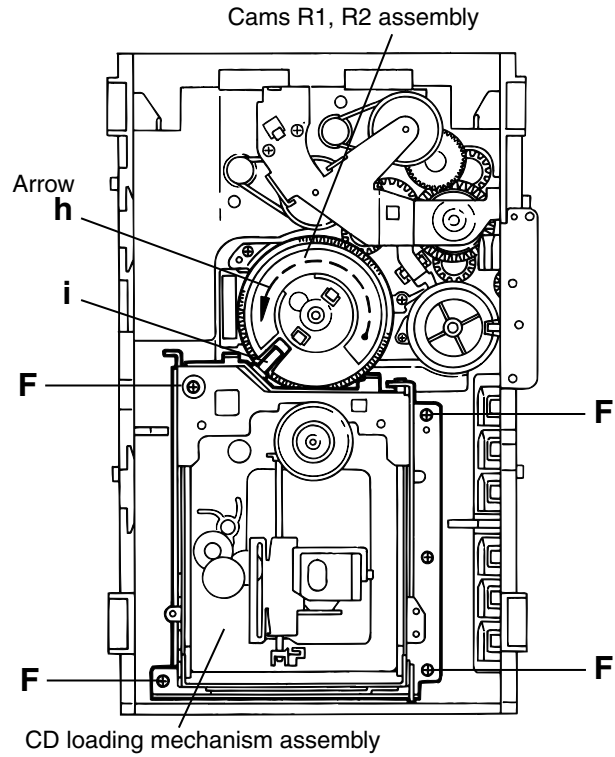

Fig.10
Removing the CD loading mechanism assembly(See Fig.10)
1. While turning the cams R1 and R2 assembly in the arrow direction "h", align the shaft "i" of the CD loading mechanism assembly to the position shown in Fig.10.